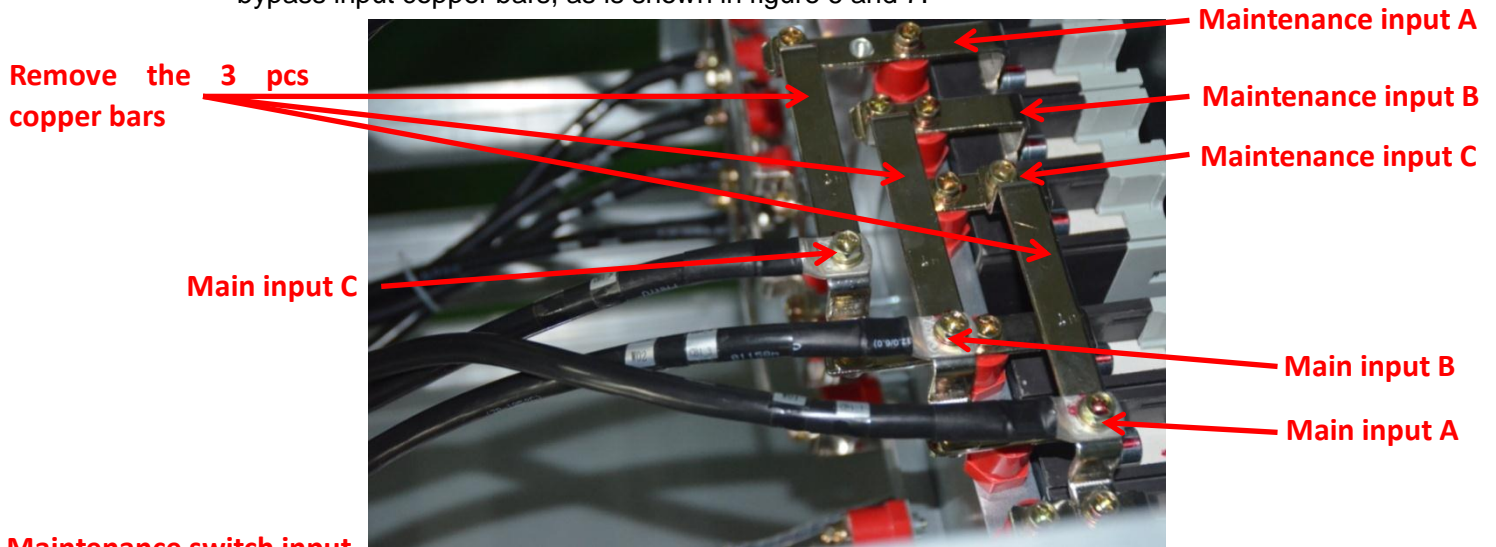

Figure 6 Shorted copper bars
4. Remove 3 pcs copper bars between maintenance switch input and main input copper bar, and install new 3 pcs longer cables between maintenance switch inputs and bypass input copper bars, as is shown in figure 6 and 7.